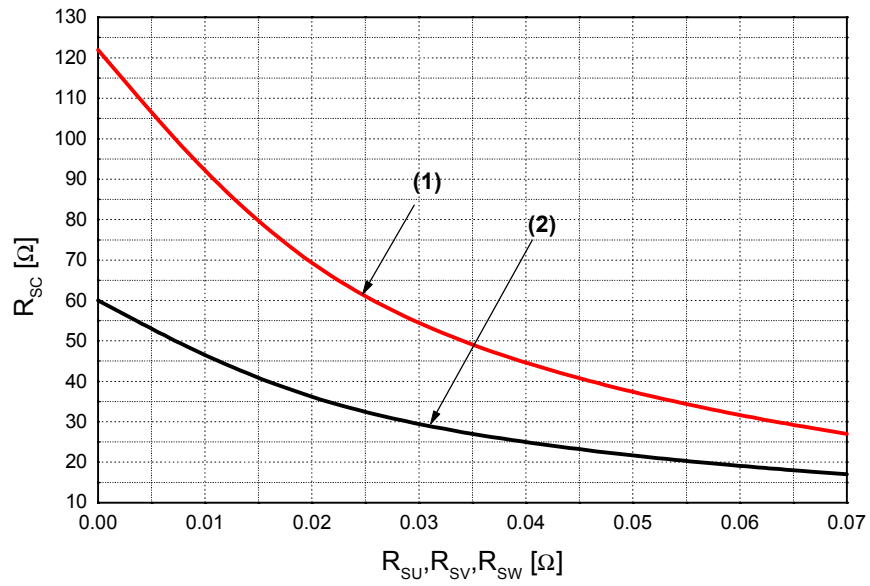

Fig. 6. R_{SC} Variation by change of Shunt Resistors (R_{SU} , R_{SV} , R_{SW}) for Short-Circuit Protection
5. Short-circuit current protection is functioning only at the low-sides. It would be recommended that the value of the external sensing resistor (R_{SC}) should be selected around 60 Ω in order to make the SC trip-level of about 30A. at the shunt resistors (R_{SU}, R_{SV}, R_{SW}) of 0Ω. For the detailed information about the relationship between the external sensing resistor (R_{SC}) and the shunt resistors (R_{SU}, R_{SV}, R_{SW}), please see Fig. 6.